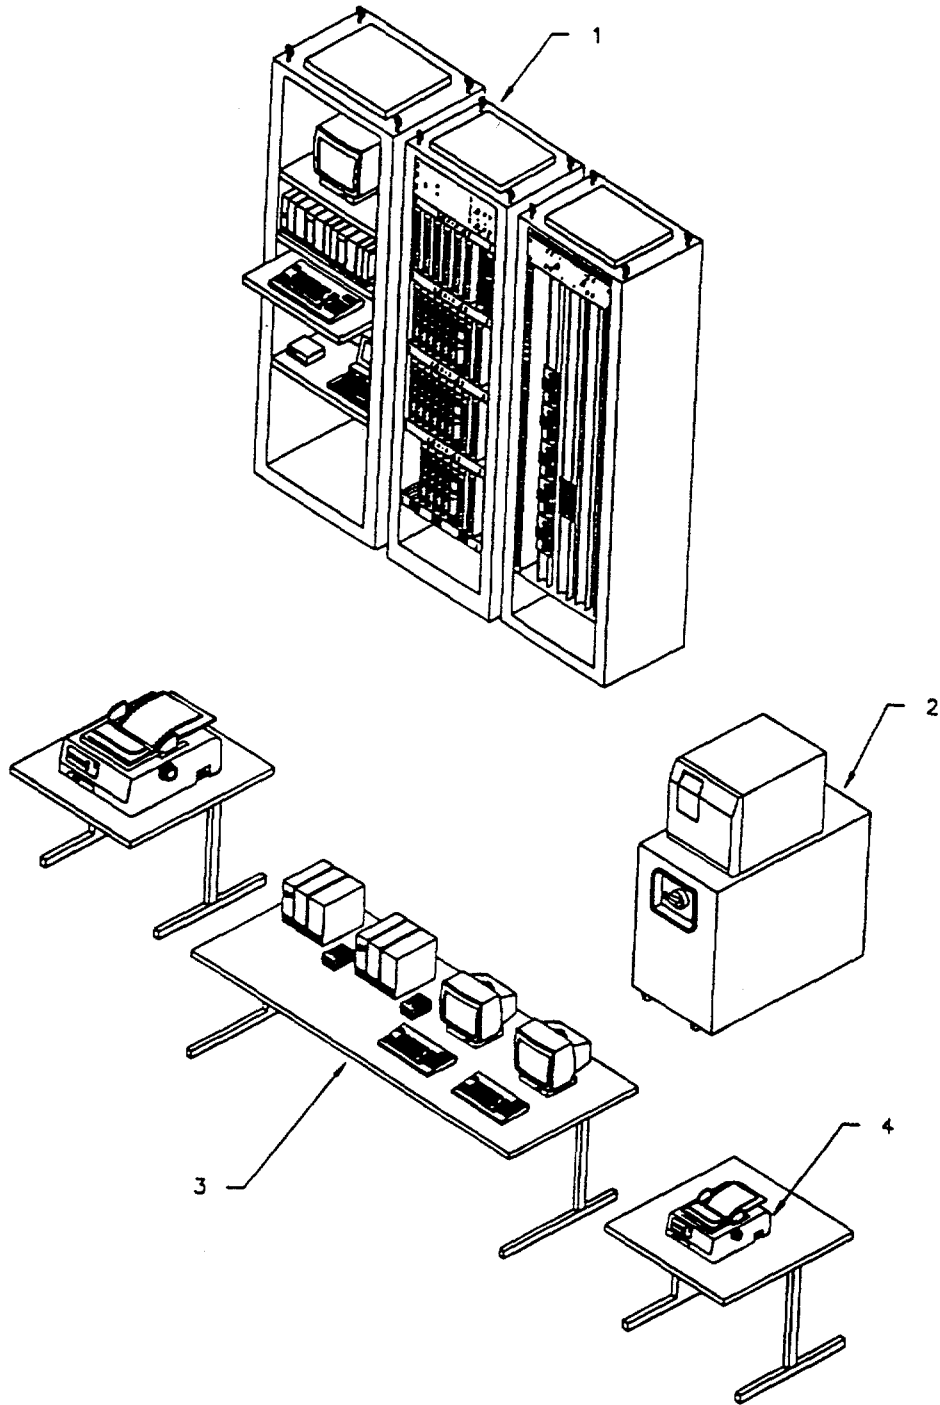
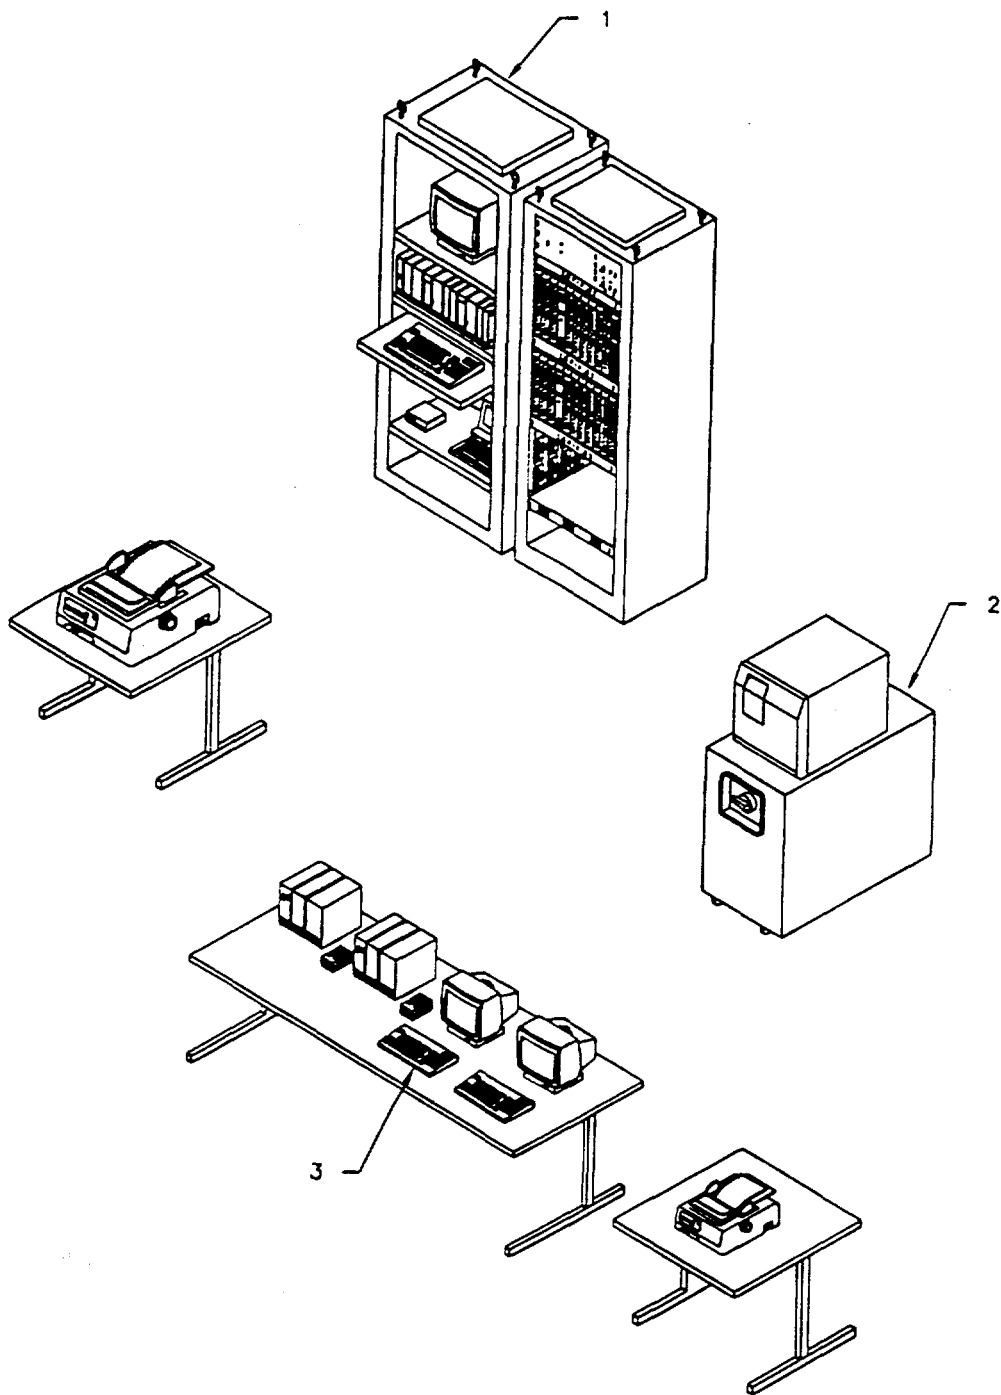

Figure 1-2. Components of Large Primary Monitor Console
Figure 1-3. Components of Small Primary Monitor Console
**a. Primary Monitor Console (PMC).** The Primary Monitor Console (PMC) is the control center that consists of the PMC Cabinet, printers, Uninterruptible Power Supply (UPS), and operator workstations. There are two versions of the PMC. The large is depicted in Figure 1-2, and the small is depicted in Figure 1-3.